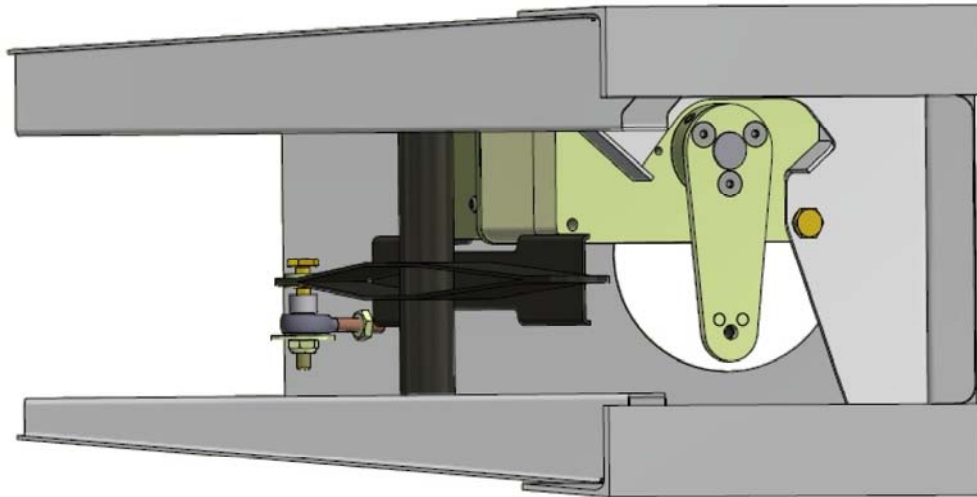

Figure 2-5
(1) Attach the electrical connector to the roll servo and secure it in place with the mounting screws. Torque to approximately 2-3 in-lb.
(2) Place the servo behind the mounting bracket with the arm oriented between the servo stops as shown in Figure 2-5,